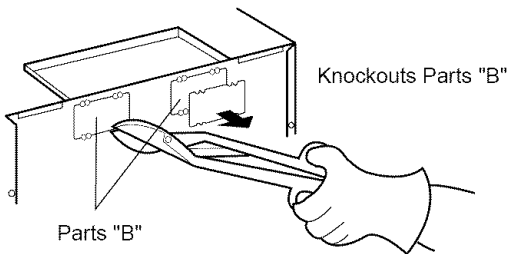

**Figure 12**
1. Remove two blower unit mounting screws and one blower plate screw. Remove the blower plate from cabinet. See **Figure 12**.